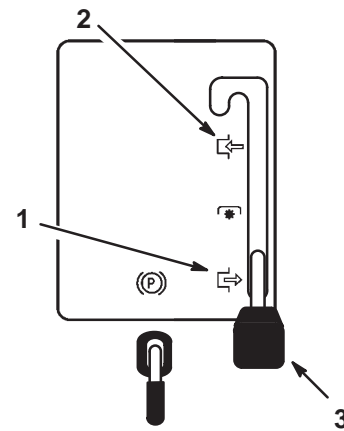

Figure 5
2. Move the blade control (PTO) to Engaged (Fig. 5).
2. Move the PTO to Disengaged (Fig. 5).